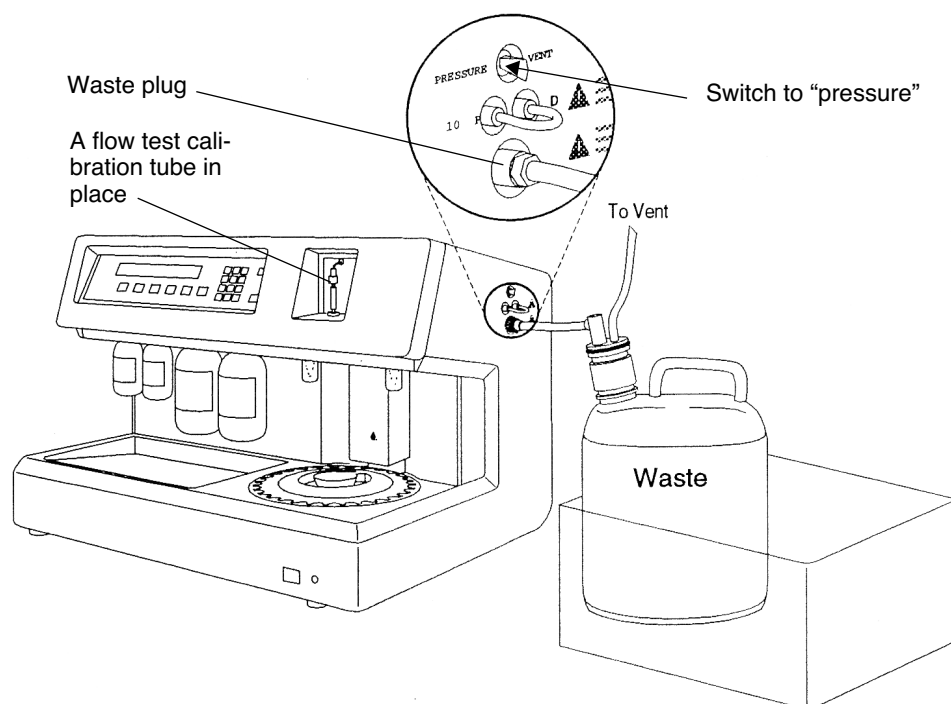

Figure 11. The Pressure/Vent Switch on the right side panel of Synergy
3. Check that a flow test calibration tube is in place on the front of Synergy (Figure 11). Press the **OK** soft key.
- b. Use a 5/8 in. wrench to remove the plug in the Waste fitting (Figure 11).